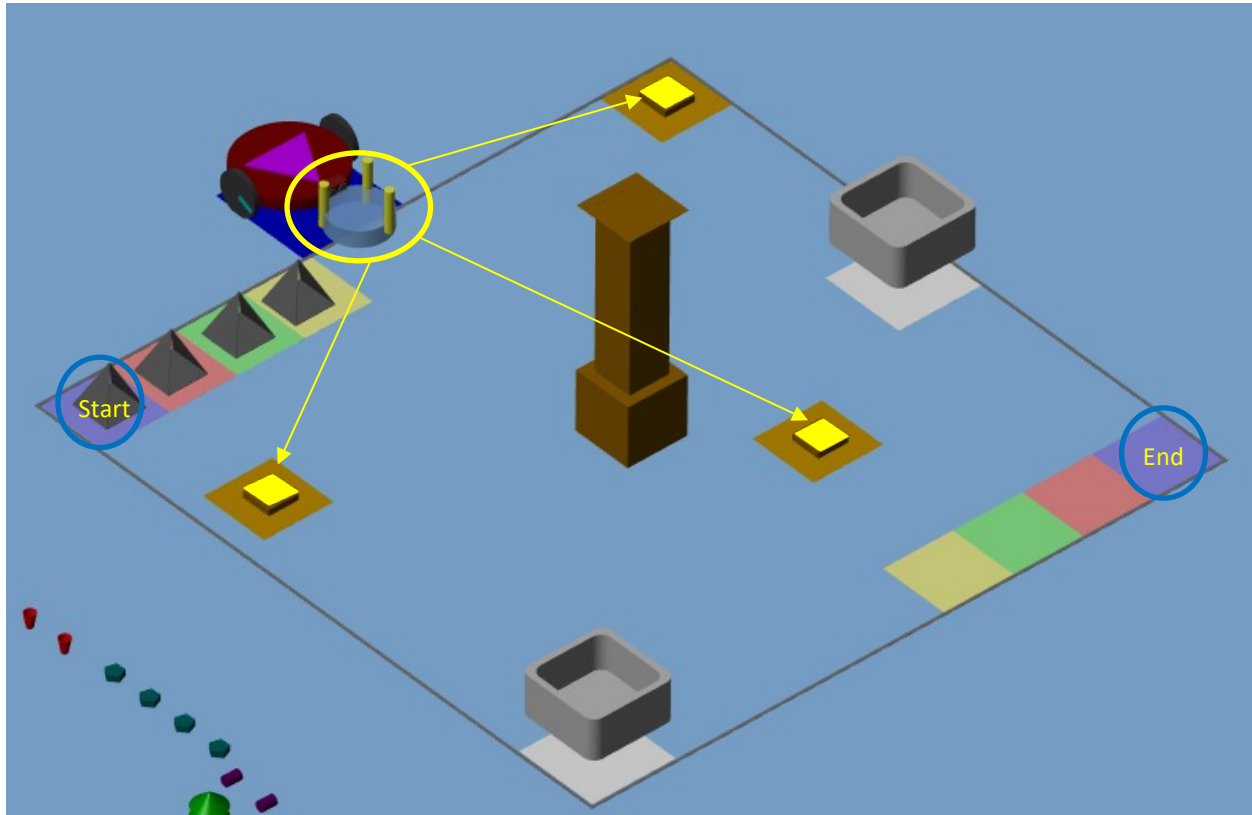

Figure 2.4 Phase 1 Field Layout & Objectives
- Figure 2.4 represents the field layout expected during Phase 1.
- Three (3) security light poles are preloaded onto the robot at the beginning of the phase. Once dropped, the light pole(s) cannot be retrieved.